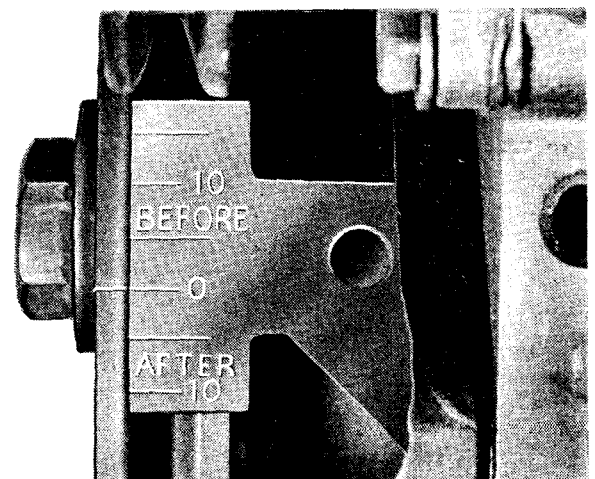

Fig. 23—Timing Indicator
- (1) Rotate crankshaft until the mark on outer edge of crankshaft pulley is in line with the "O" (TDC) mark on the timing chain case cover (Fig. 23). No. 1,